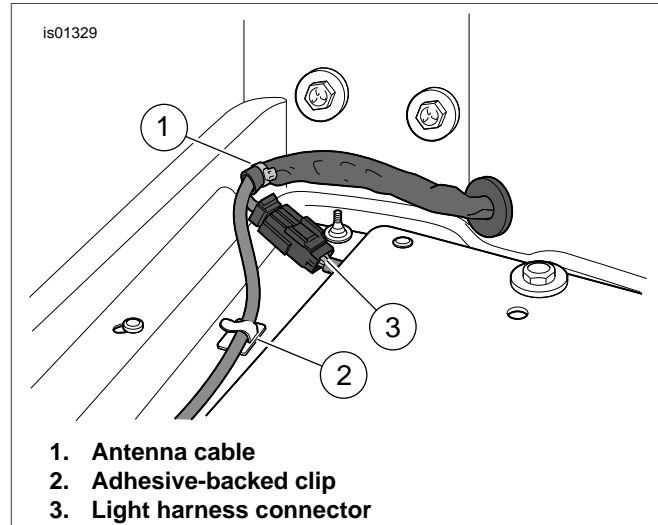

Figure 5. Antenna Cable and Connector
- See Figure 5. Connect Tour-Pak light harness connector to unused connector bundled with antenna cable inside of Tour-Pak.